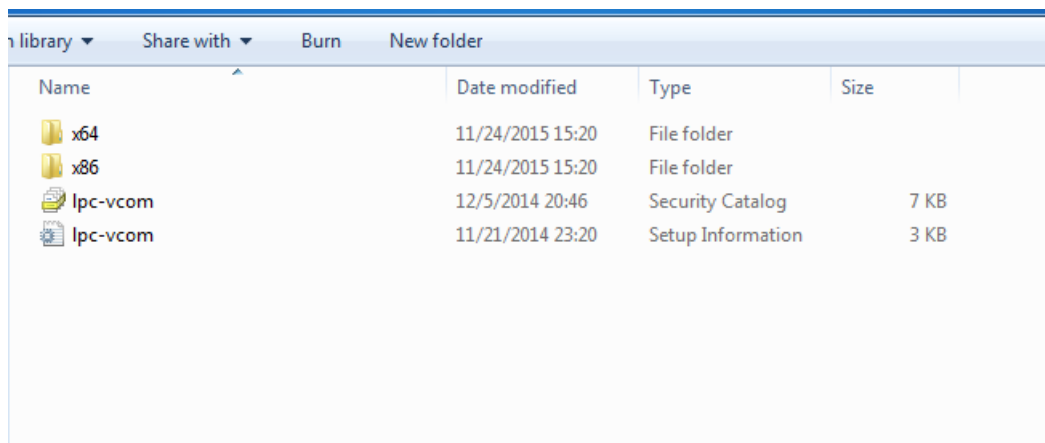

Fig. 7. Device driver folder content
- Select “x86” driver for a 32-bit machine or x64 for a 64-bit machine. If not sure, select a root folder (folder in which x64 and x86 lay inside, as in Fig. 7.)